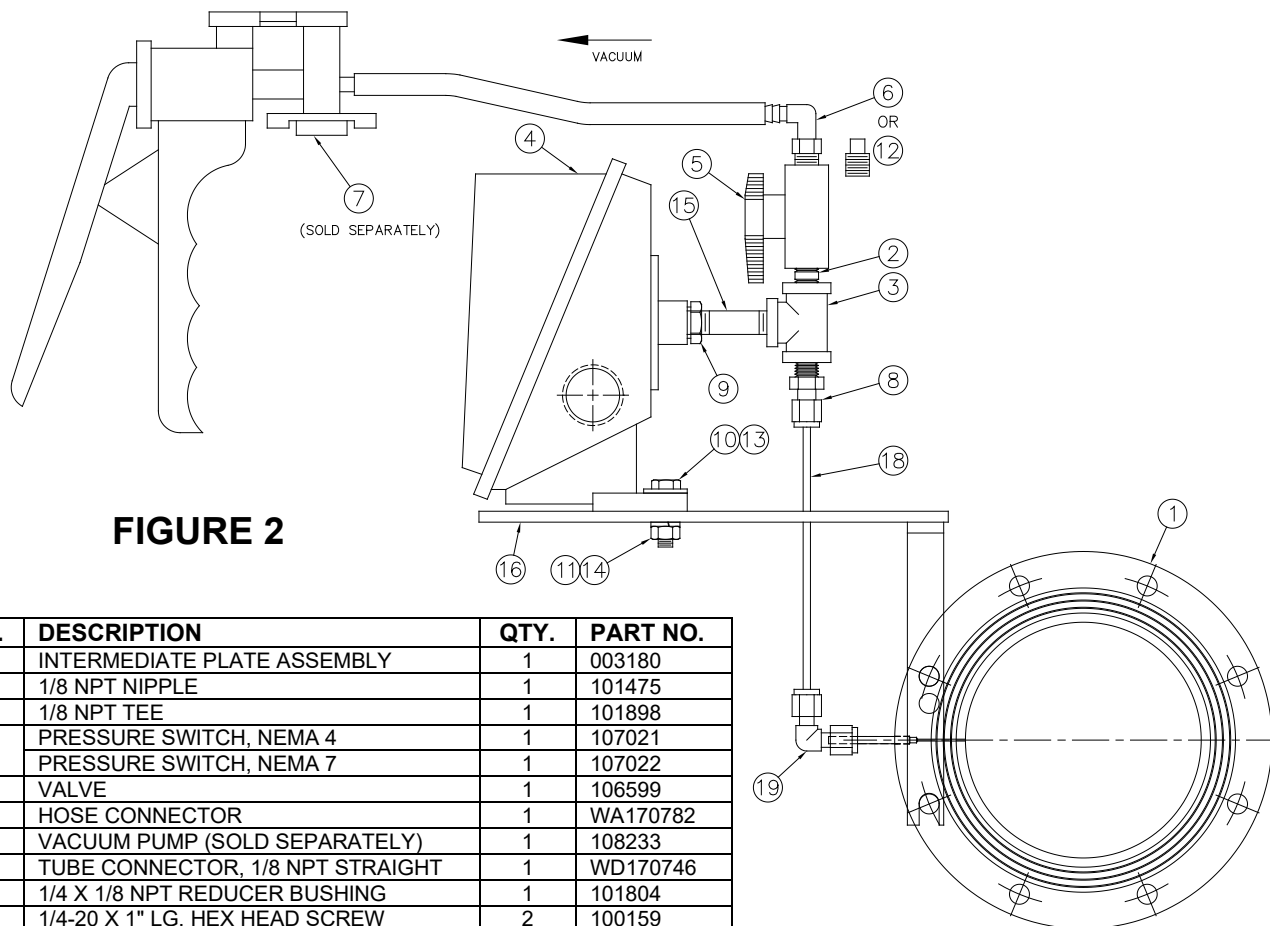

FIGURE 2
- 1.0.6 Open valve Item No. 5 (**Figure 2**).